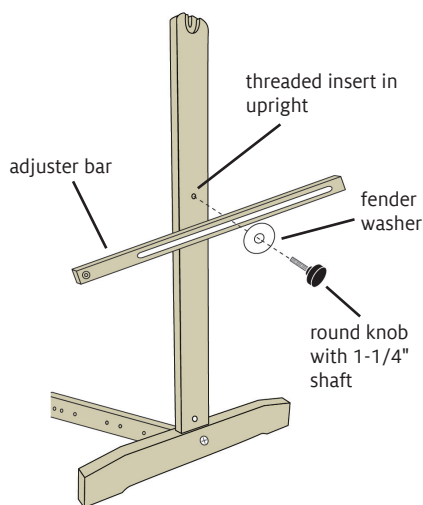

FIGURE 5: ATTACH ADJUSTER BARS TO THE UPRIGHTS
8. Insert the knob into the long slot on the adjuster bar (Figure 5).
9. With the adjuster bar on the outside of the stand, fasten the knob into the threaded insert in the stand upright (Figure 5).